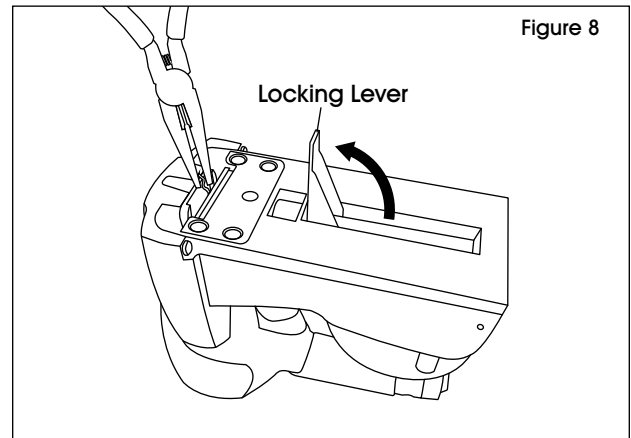

Figure 8
1. Pull the locking lever on bottom of stapler to open nozzle plate. (See Figure 8)
2. Carefully remove the staple with flat pliers. (See Figure 8)